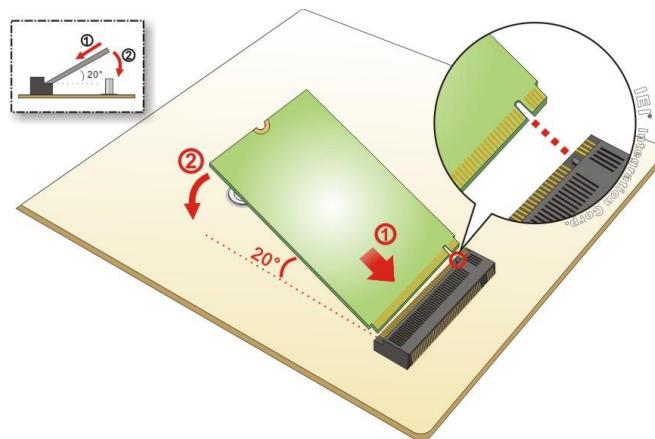

Figure 4-9: Inserting the M.2 Module into the Slot at an Angle
Step 3: Line up the notch on the module with the notch on the slot. Slide the M.2 module into the socket at an angle of about 20° (Figure 4-9).
Step 2: Line up the notch on the M.2 module with the notch on the slot. Slide the M.2 module into the socket at an angle of about 20°. (See **Figure 4-9**)